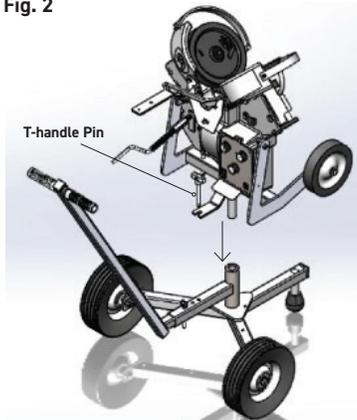

Fig. 3
5. Insert the head into the Fungo Kart base (see fig. 3).
6. Insert the T-handle pin into the hole to lock the junior into place (see fig. 3).
2. Lower throwing head onto Fungo Kart (see fig. 3).
3. Insert T-handle pin (see fig. 3)